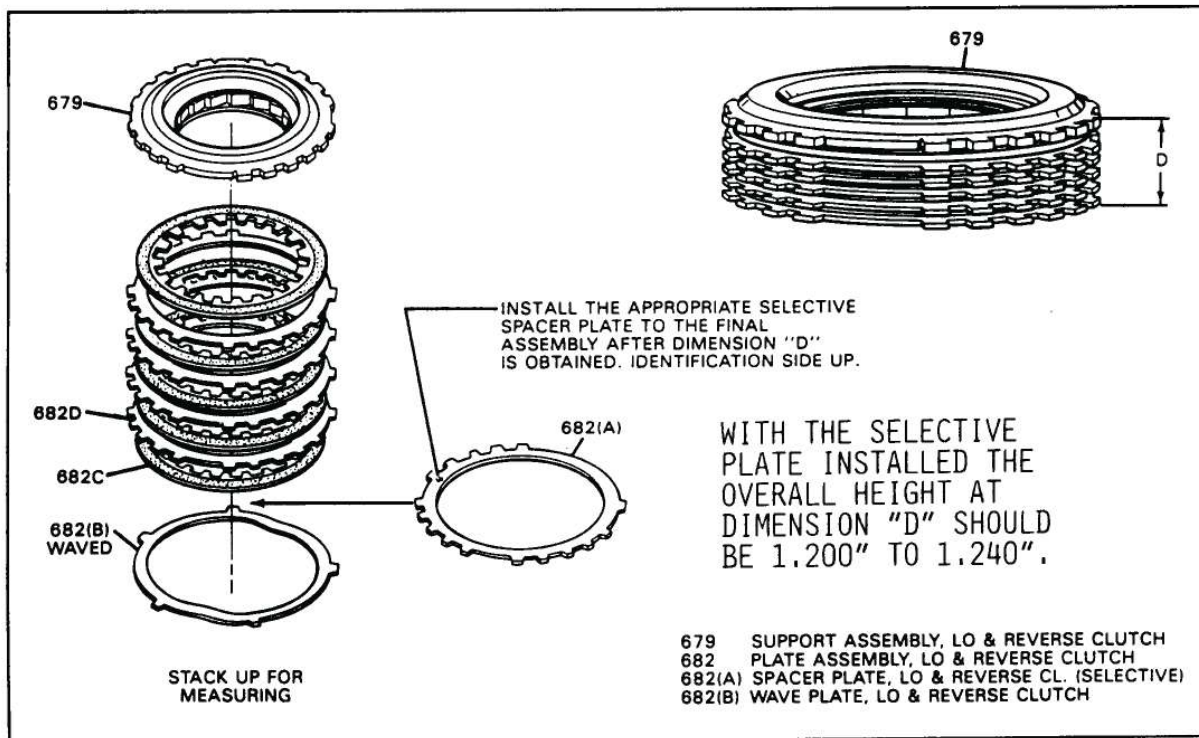

Figure 88
Refer to Figure 88 for proper order.
5. Measure the height of the clutch pack from the work surface to the top of the Low/Reverse clutch support (Dimension "D"), as shown in Figure 88.